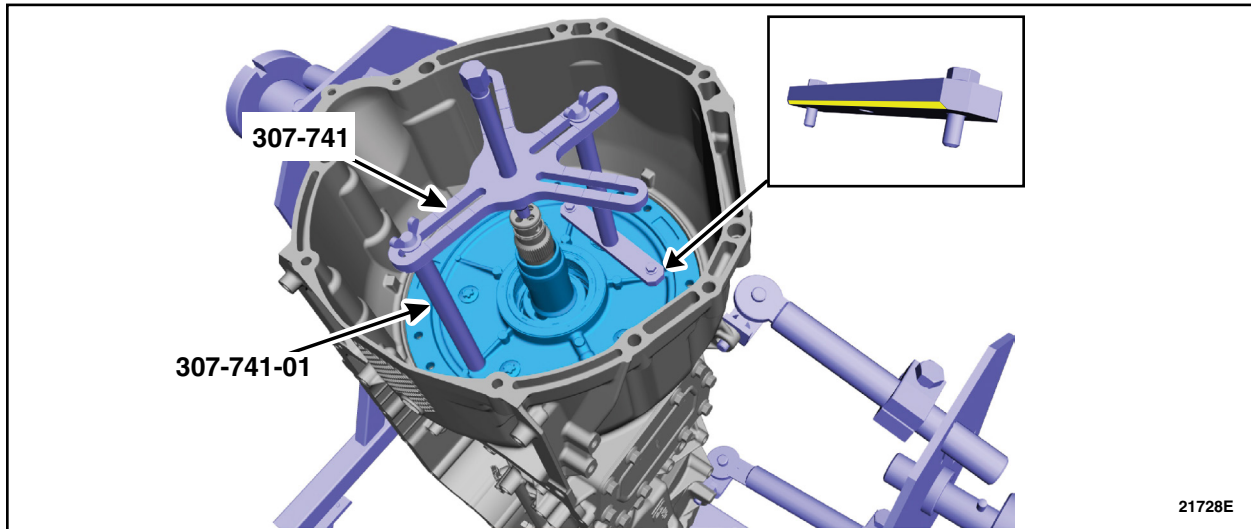

FIGURE 7
8. Using the special tools, separate the front support cover from the front support assembly and remove the front support cover. See Figure 7.